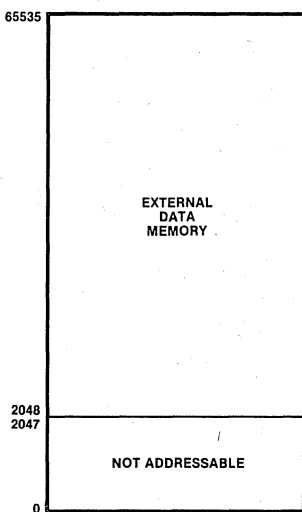

Figure 5. Data Memory Map
**Data Memory.** The Z8671 can address up to 62K bytes of external data memory beginning at location 2048 (Figure 5). External data memory may be included with, or separated from, the external program memory space. DM, an optional I/O function that can be programmed to appear on pin P34, is used to distinguish data and program memory space.